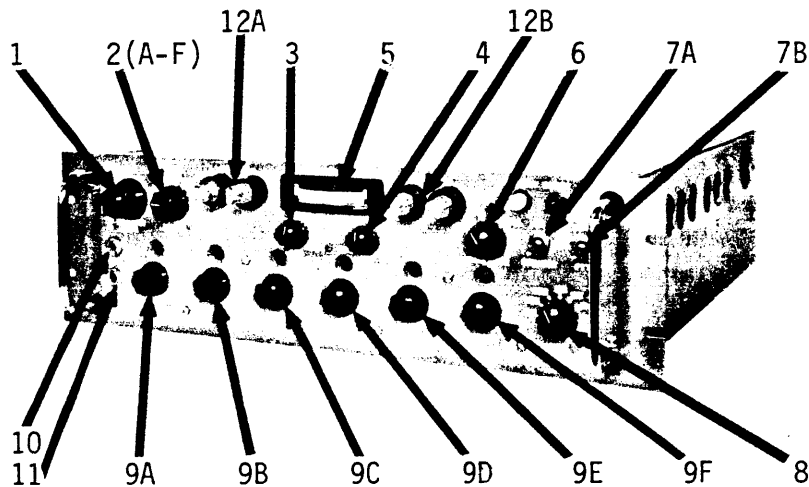

Figure 3-1. Front panel controls and indicators
3.2.1 All operator controls and indicators are located on the front and rear panels of the exciter. Figures 3-1 and 3-2 illustrate the front and rear panels respectively. Table 3-1 presents a listing of the front panel controls and indicators with an explanation of the function of each. In the same manner, Table 3-2 lists the rear panel controls.